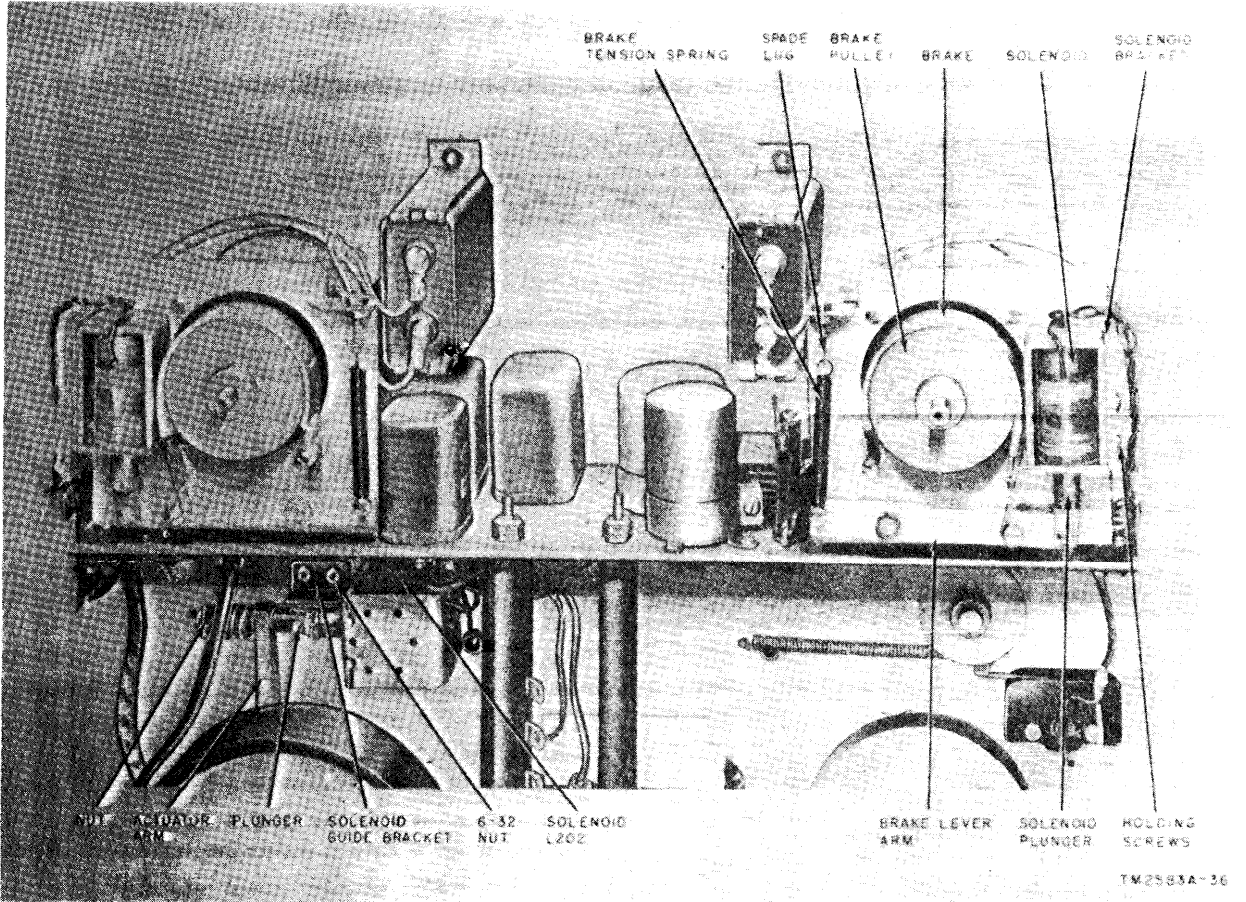

Figure 39. Recorder-reproducer, adjustment points.
#### 76. Solenoid Throw Adjustment (fig. 39)
#### 77. Brake Belt Tension Adjustments (fig. 39)
b. Loosen the two No. 6-32 nuts on the solenoid guide bracket (fig. 39).
c. Loosen, but do not remove, the two set screws on the lower end of the actuator arm (fig. 39).